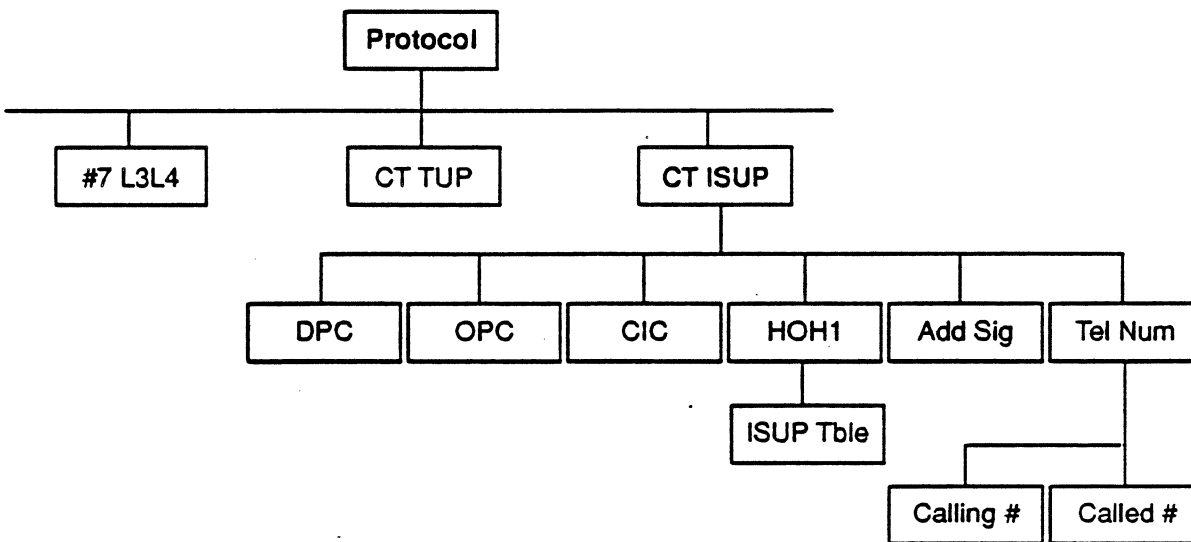

Figure 8.12: SS#7 CCITT ISUP Level 3 and Level 4 Options
**F9 CT ISUP** displays function key options for CCITT SS#7 ISDN User Part (ISUP) triggering, as shown in Figure 8.12. This option provides direct access for writing ISUP triggers. Refer to **F7 #7 L3L4** (page 8–25) for triggering on Signalling Indicators other than ISUP.